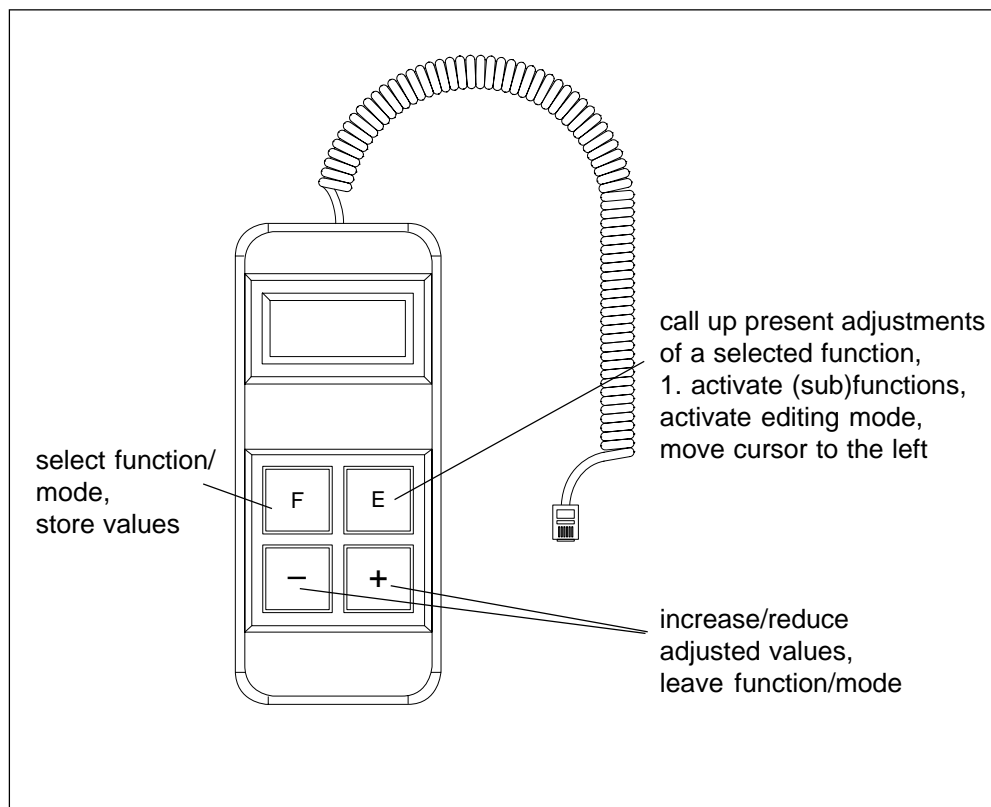

Fig. 10: Key functions of the setting module
Connect the setting module (fig. 10) to the socket (1) which is situated on the frontside of the changer at the top right.